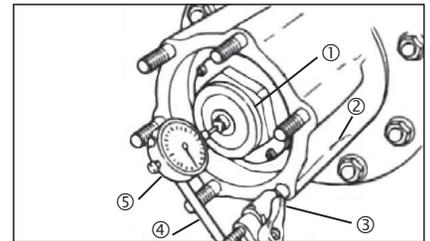

Figure 6
- c) Setup gauging with similar equipment as shown in Figure 6.